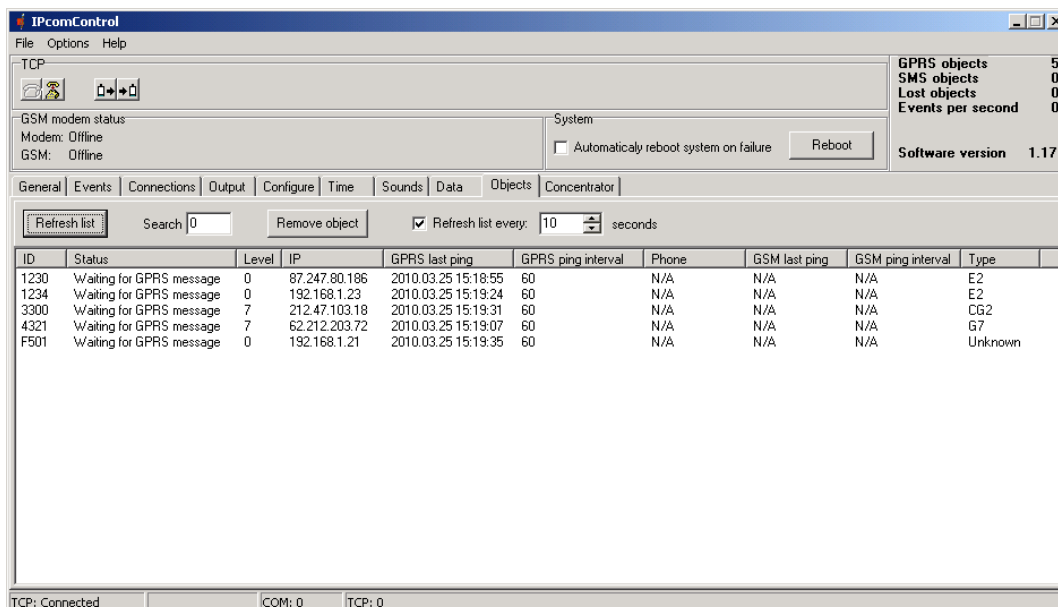

Figure 19.
8.17 In the **Objects** tab (Fig. 19) a list of automatically registered sending modules and their administrative information is shown.